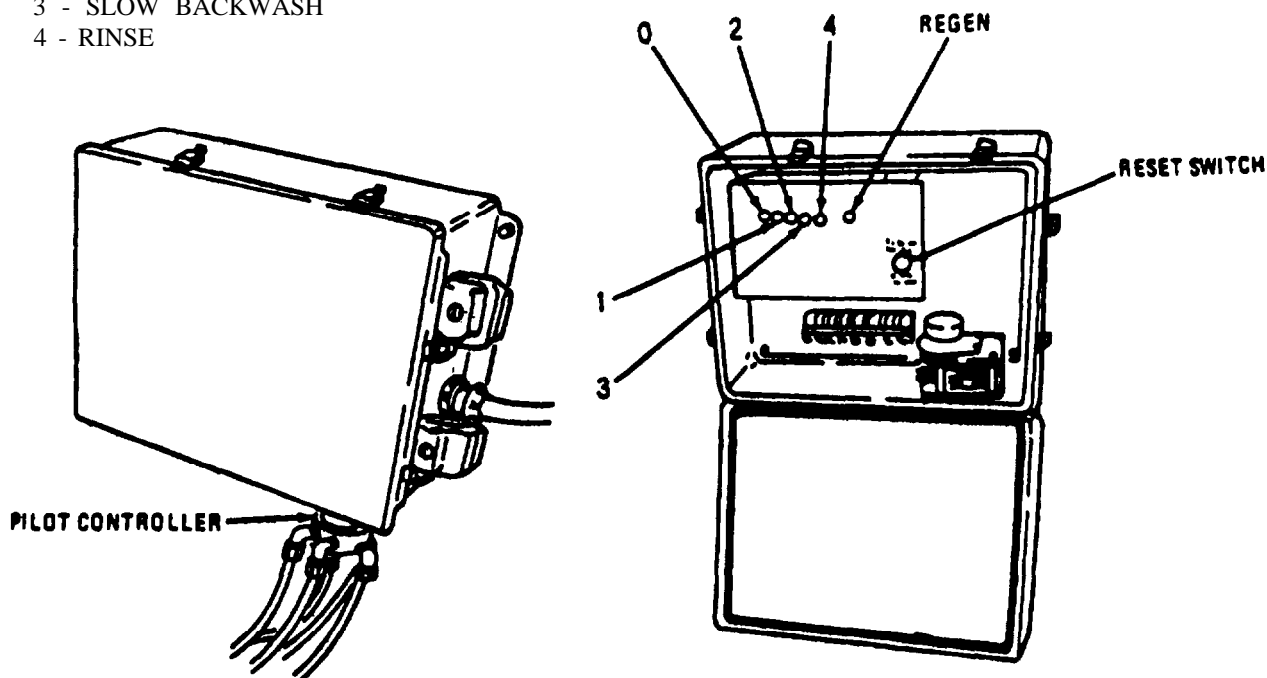

Figure 2-65. Solid State Timer.
(1) *Models WPES-10, WPES-20, and WPES-30 (Refer to figure 2-65):*